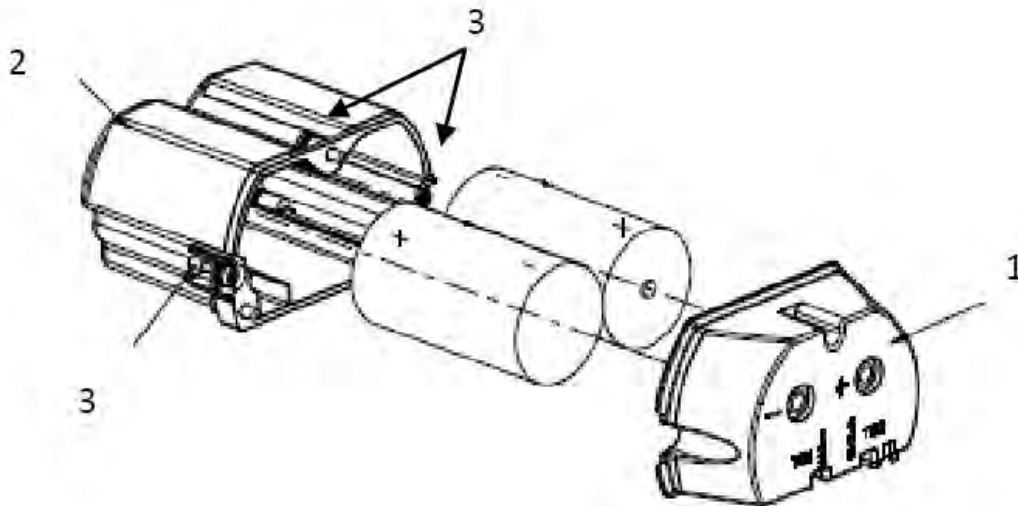

Figure 10: IS Battery Pack
- 6 Remove top of battery pack by using a #1 Philips or 1/8" slotted screwdriver for the screws identified as #3 in Figure 10.
- 10 Insert the Battery pack into the transmitter. Reattach the screws as indicated in Figure 10, item 3, to 0.4 to 0.6 N-M (3.5 – 5.3 Lb-in).
1	Loosen the M3 locking set screw on the end-cap (opposite end from display). See Figure 10. Unscrew and remove the end cap.
2	Using thumb and forefinger squeeze the power connector at top and bottom to disengage the locking mechanism then pull to disconnect. See Figure 10.